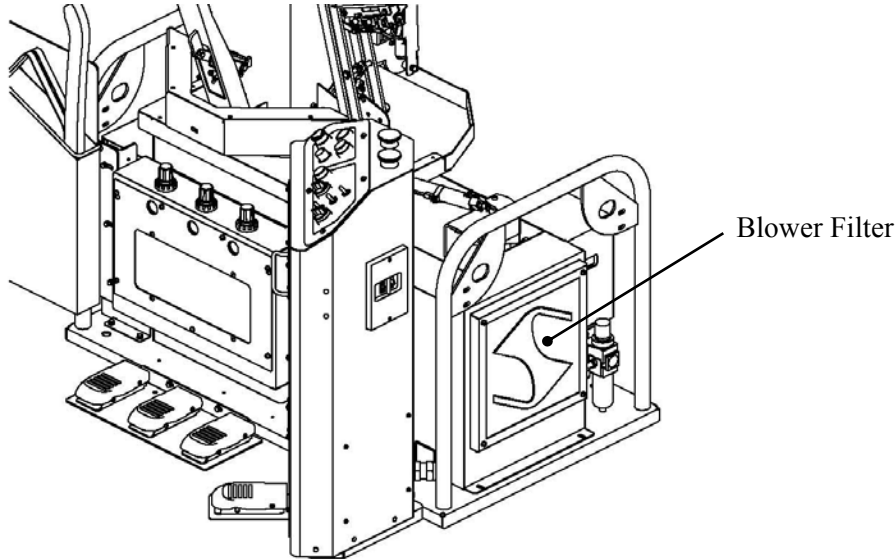

Figure-5
7. Blower filter check: Figure-5